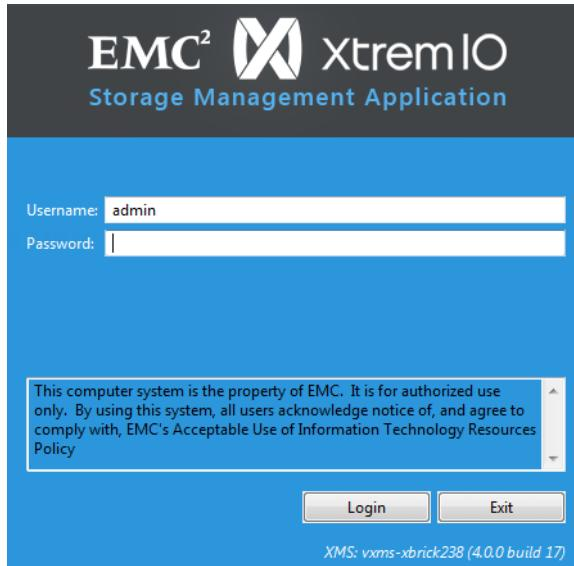

Figure 16 Login Screen
5. In your local folder, open the XtremIO Storage Management Application folder and double-click **XtremIO Launch.vbs**; the XtremIO Login Screen appears, as shown in Figure 16.